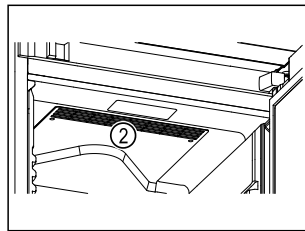

Fig. 62
- ❑ Ventilation slots *Fig. 62 (2)* for recirculation fan in the interior must be kept clear.